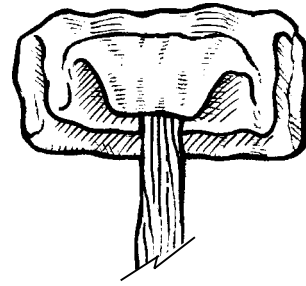

FIG. 4
5. At this point, refer to the directions by the canopy manufacturer for flaking and folding the canopy. After flaking and folding it should resemble (**FIG. 4**).
**Kill Line Instructions refer to page (10)**
6. Stack the canopy in "S" folds as shown in (FIG. 4).